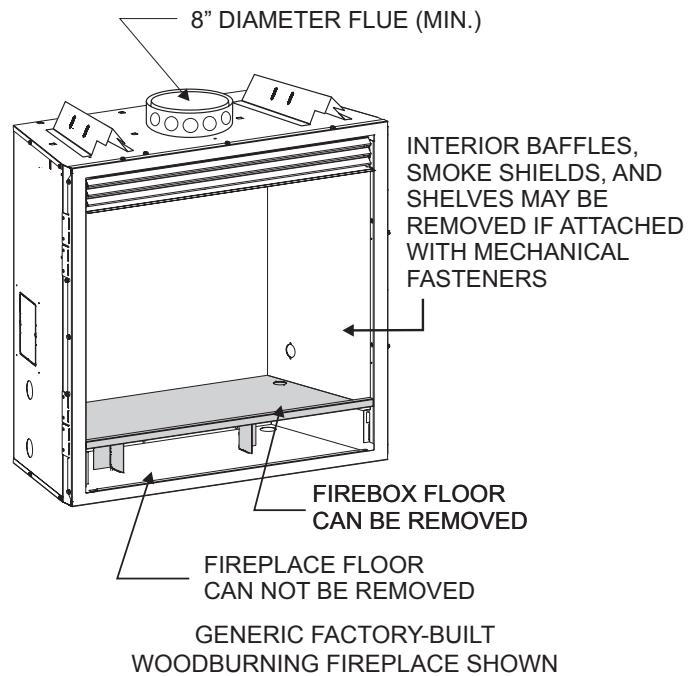

Figure 8
4. The minimum fireplace opening requirements are shown in **Page 11** of this installation manual. The firebrick (refractory), glass doors, screen rails, screen mesh and log grates can be removed from a factory built fireplace to gain minimum gas insert opening requirements prior to installing the gas fireplace insert. See Figure 8.
See Figure 8.